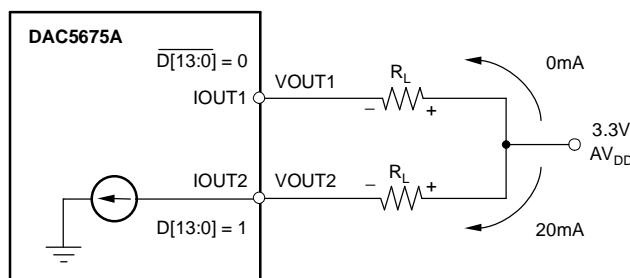
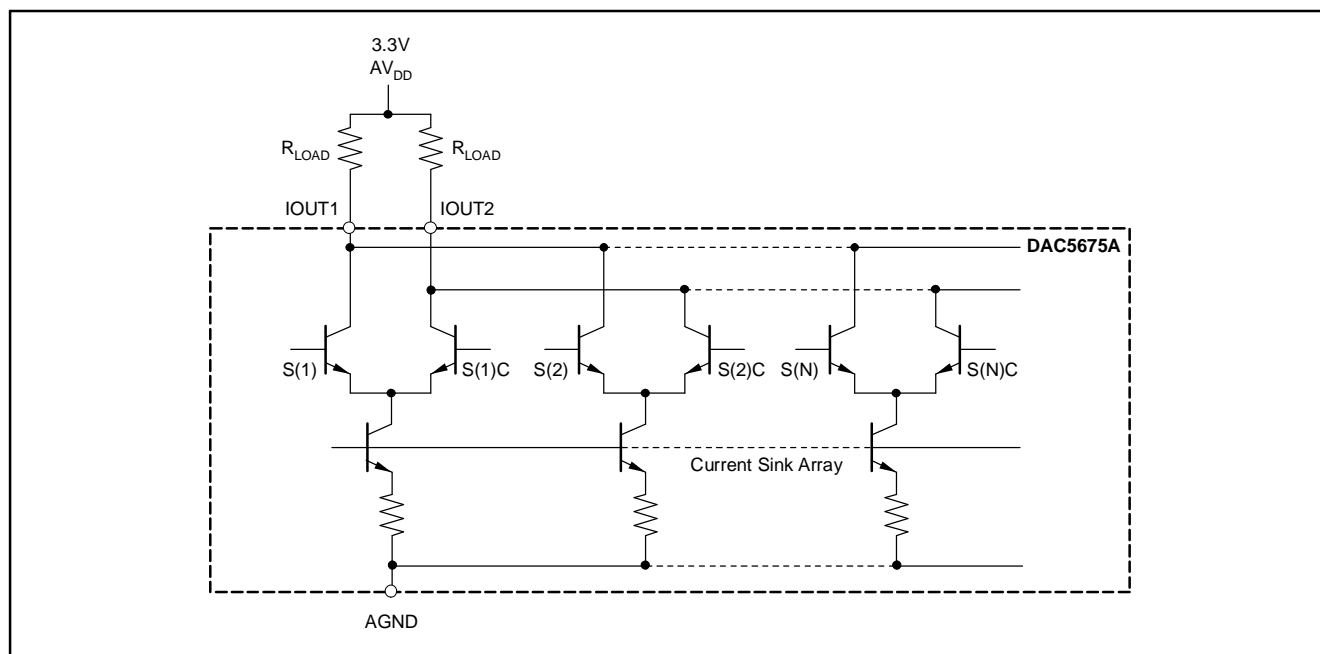

Figure 21. Relationship Between D[13:0], IOUT1 and IOUT2
Figure 22. Equivalent Analog Current Output
The output current flow in each pin driving a resistive load can be expressed as shown in Figure 21, as well as in Equation 2 and Equation 3.
Figure 22 shows a simplified schematic of the current sink array output with corresponding switches. Differential NPN switches direct the current of each individual NPN current sink to either the positive output node IOUT1 or its complementary negative output node IOUT2. $D[13:0]$ controls the S(N)C current switches and $\overline{D}[13:0]$ controls the S(N) current switches, as explained in the previous **DAC Transfer Function** section (see Figure 21). The output impedance is determined by the stack of the current sinks and differential switches, and is $> 300k\Omega$ in parallel with an output capacitance of 5pF.